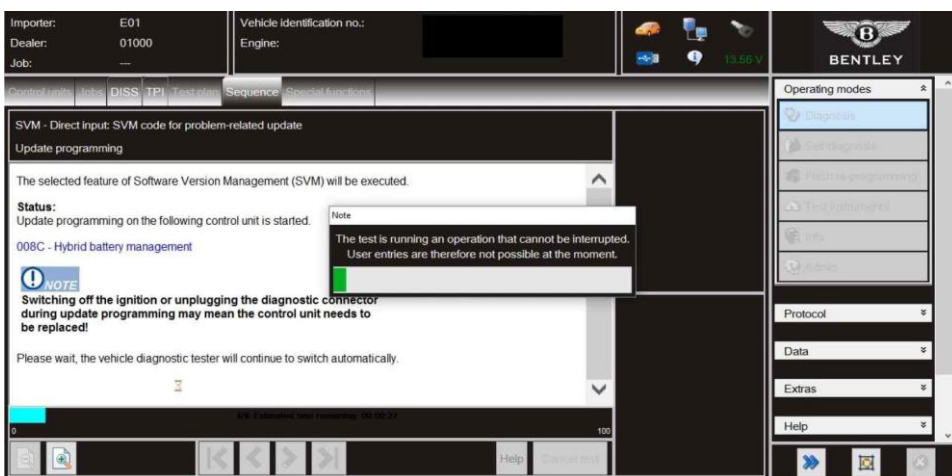

Figure 4
- The software of the Hybrid battery management control module will then be updated, a progress bar will be displayed (Figure 4)